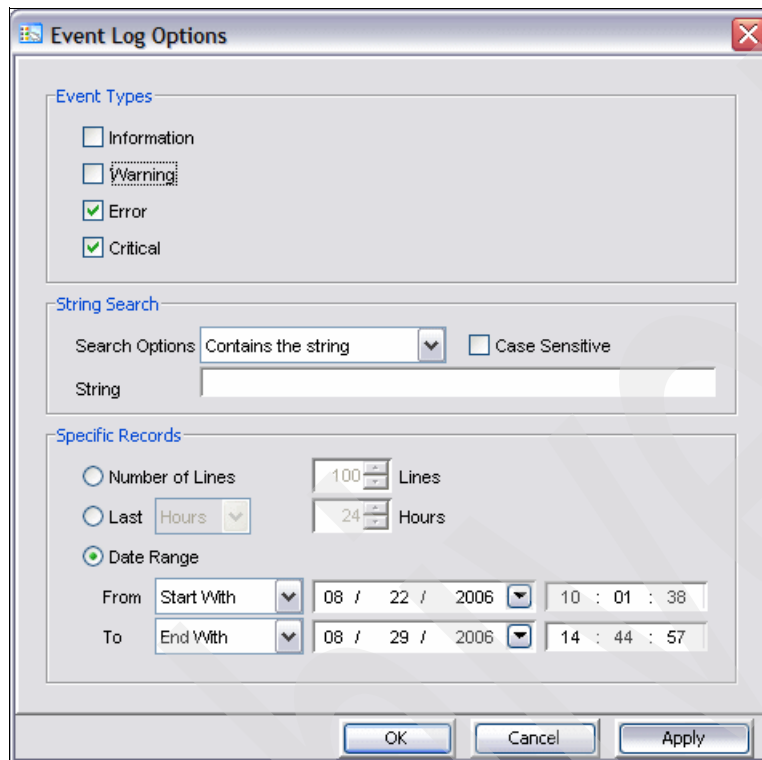

Figure 7-19 Selecting item to display in Event Log
2. You are presented a panel where you can select the types of events and range of items being displayed. After selecting, click **Apply**, then click **OK**. In our example, we selected only error and critical messages to be displayed. We also selected a date range from August 22 to August 29. Our example is shown in Figure 7-19.